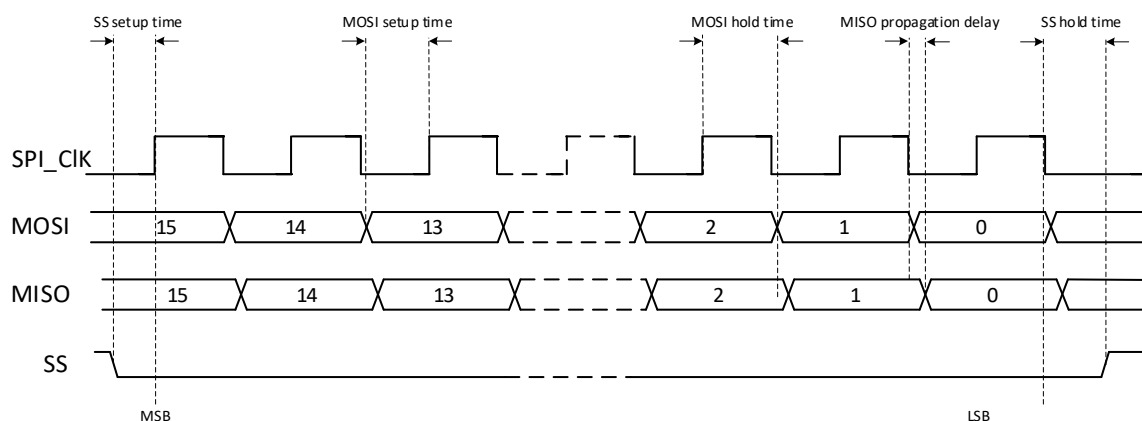

Figure 5.2. Timing diagram of SPI, CPOL=0 and CPHA=0.
The serial data transfer input (MOSI) and output (MISO) to the A121 are synchronized by the SPI_CLK. The Slave Select signal (SS) must be low before and during transactions. The MOSI is always read on the rising edge of SCLK and the MISO changes value on the falling edge of SPI_CLK (SPI mode 0, CPOL/CPHA = 0). SS requires release in between transactions. See Figure 5.2 and Table 12 for timing characteristics.